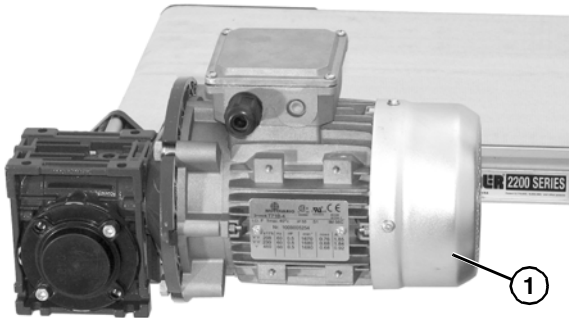
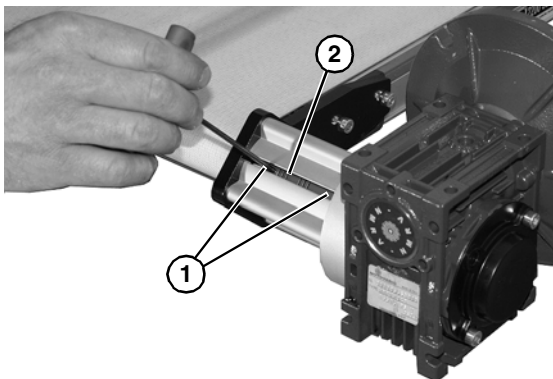

Figure 13
Figure 14
5. Remove fan guard (Figure 13, item 1) and rotate fan to align set screws (Figure 14, item 1) with access slot (Figure 14, item 2). Tighten to 32 in-lb (3.7 N-m). Repeat for second set screw.